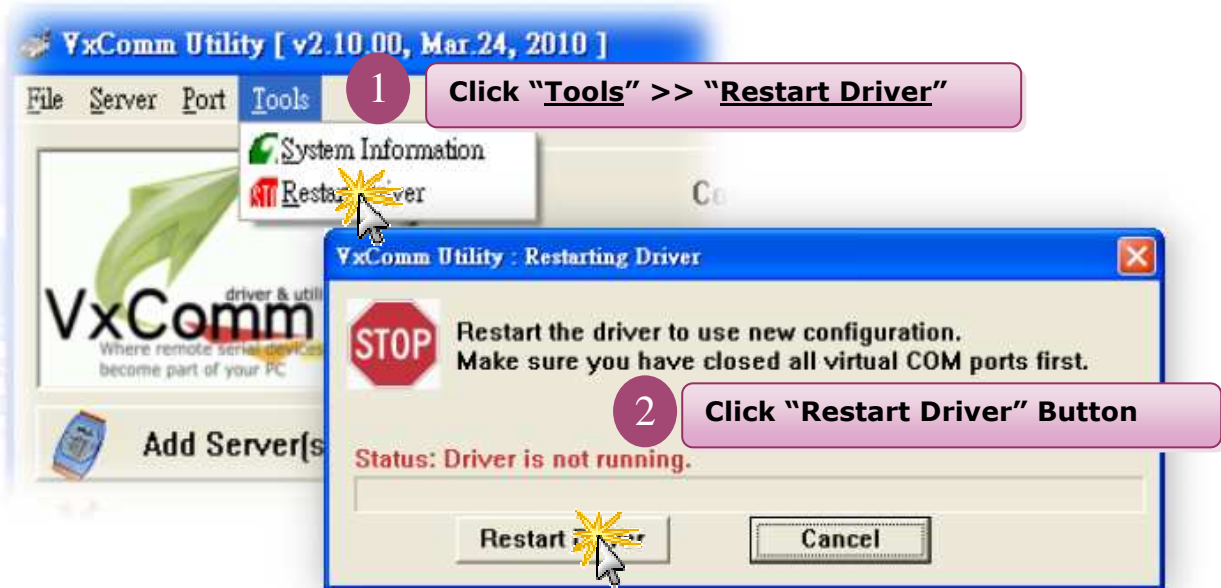

Fig 4-5
4. Click "**Tools**" >> "**Restart Driver**", and then click the "**Restart Driver**" button, please refer to Fig 4-5.